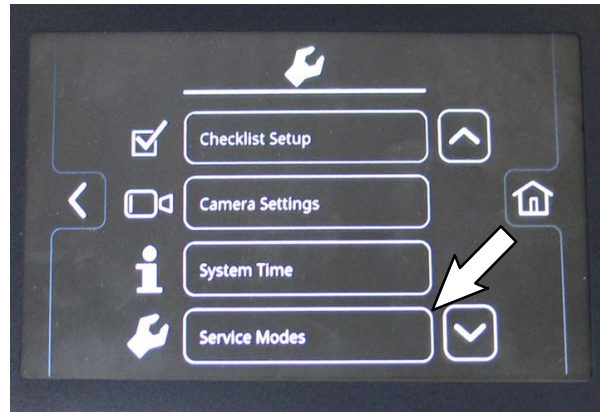

FIG. 23
19. Select the Service Modes button to access the service modes. If necessary use up and down arrow buttons to scroll to the Service Modes button. (Fig. 23)